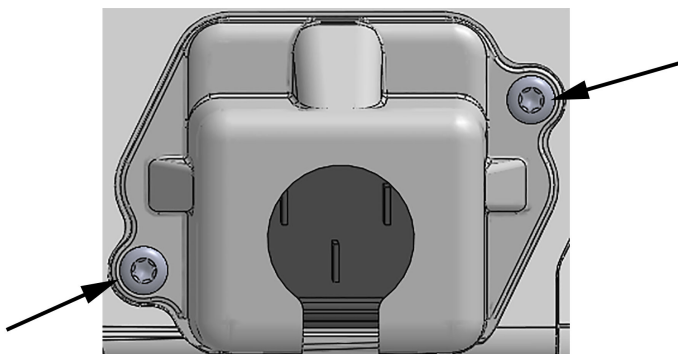

Figure 3-5: HemoSphere advanced monitor power entry cover - screw locations
1. If the power entry cover is already installed, remove the two screws (Figure 3-5 on page 77) that attach the power entry cover to the rear panel of the monitor.